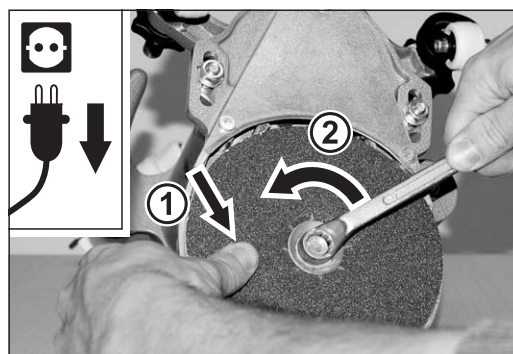

Fig. 18 Remove the conventional sanding disc by loosening the tensioning nut with the closed mouth wrench.
- 3 Use the closed mouth wrench to loosen the hexagonal nut of the paper tensioning device (fig. 18).